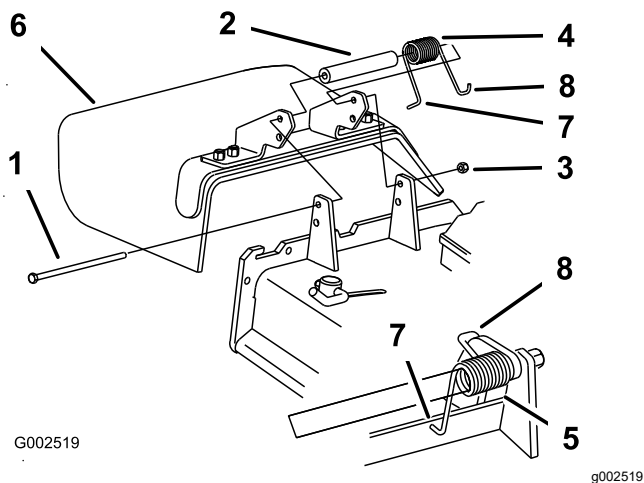

Figure 48
1. Remove the locknut, bolt, spring and spacer holding the deflector to the pivot brackets (Figure 48).
Note: Make sure that the L-end of the spring is installed behind the deck edge before installing the bolt as shown in Figure 48
5. Place the J-hook end of the spring around the grass deflector (Figure 48).